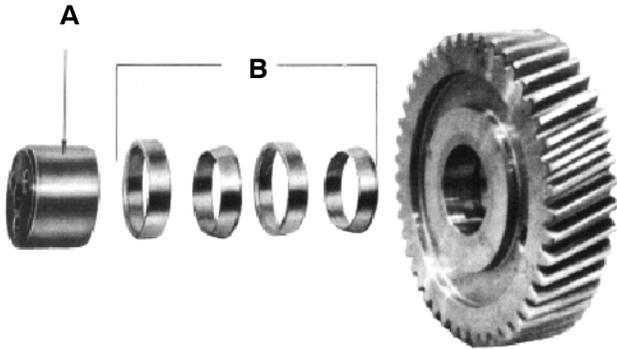
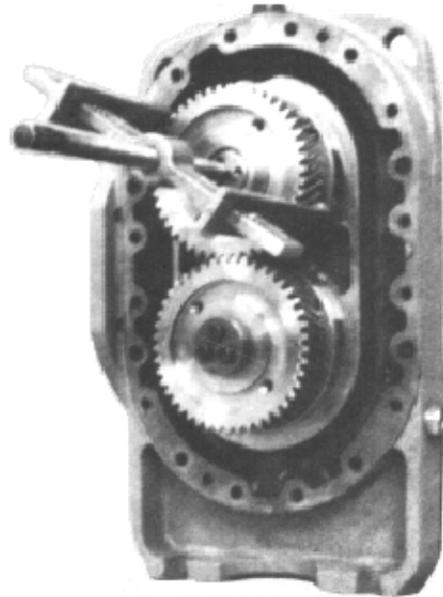

FIGURE 13 - TIMING GEAR ASSEMBLY
FIGURE 14 - TIMING GEAR REMOVAL
Impellers are held in time by timing gears, which are secured in position on the impeller shafts by grip rings inside the gear hubs. To reset impeller clearances (timing) it is necessary to release the grip rings in one of the gears. See FIGURE 13.
Refer to FIGURE 13 and FIGURE 14. Remove the cap screws and gear locking clamps (A) from both shafts. Inside the hub of each gear are two pairs of telescoping grip rings (B) which secure the gear to the shaft. These grip rings must be released to remove the gear.
This is done by withdrawing the gear (FIGURE 14) about 1/8 inch (3 mm) with a gear puller, then lightly tapping the side of the gear. This releases the rings and allows the gear to be removed by hand.
To reassemble, locate each gear firmly against the bearing race on its shaft. Thoroughly clean and dry all components – the grip rings, shafts and gear bores; coat the grip rings with a light oil, then slide the grip rings all the way onto the bores. Be sure the rings are paired and faced identically as originally installed, as shown in FIGURE 13. (Note: do not reuse grip rings which have been disassembled, since they lose concentricity and locking characteristics.)